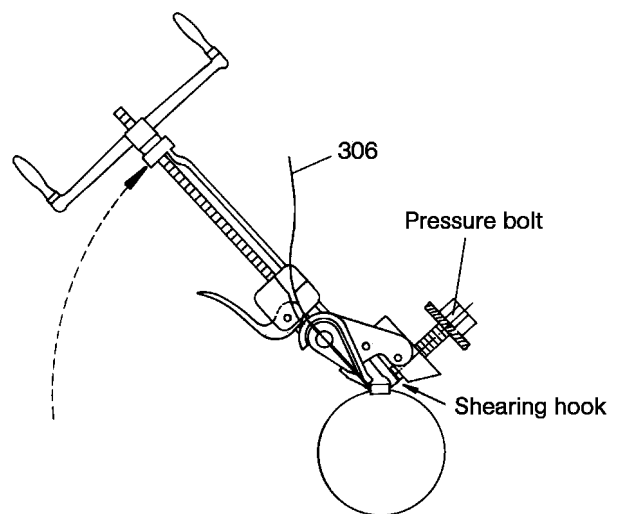

Figure 15: Shearing of the joint clamp.
- Check whether on the entire circumference of the joint collar (308), the joint clamp (306) lies in the collar slot.
- Slowly turn clamping tool upwards through approx. 60° until the shearing hook grips behind the joint clamp lock (please refer to Figure 15 below).